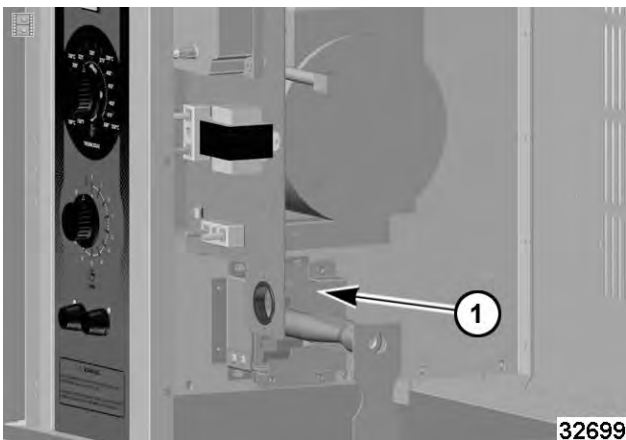

Fig. 22
4. Remove burner assembly (1, Fig. 22) mounting screws.